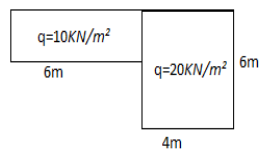

fig 4
23. Two UDL of rectangular pattern with different load intensity are placed side by side on the ground as shown in the **figure 4**. Determine the vertical pressure due to the load below point A and B at a depth of 6m.(4.08 KN/m², 3.102 KN/m²)